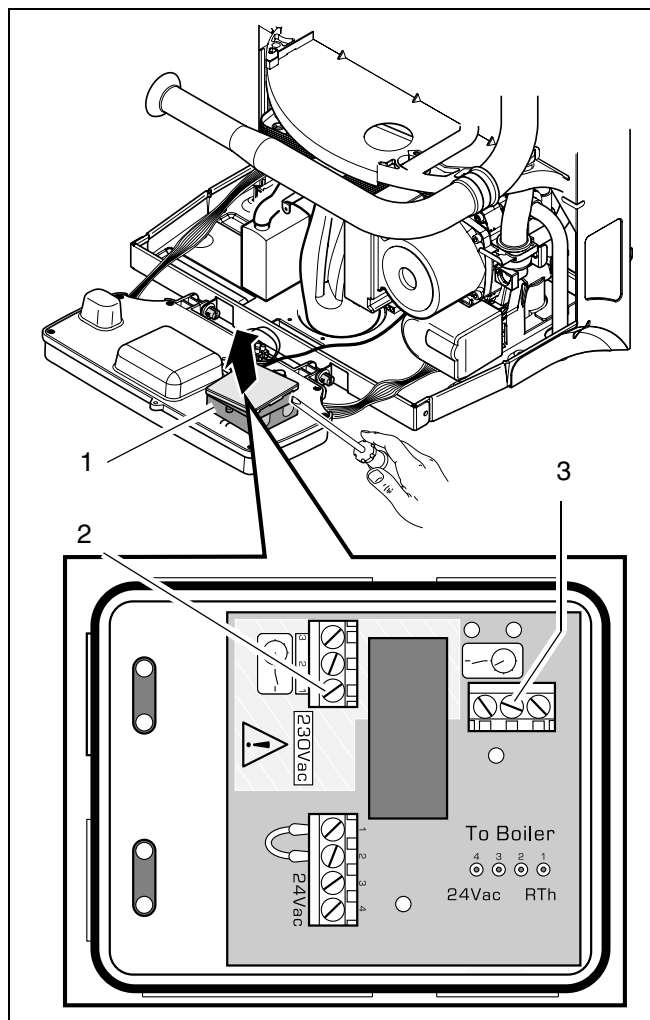

fig. 33 Connection box - 230 Volt and Volt free connection
- Remove the cover of the rth-converter (fig. 33, item 1).
- Connect the switch live to terminal "1" and a neutral to terminal "2" (fig. 33, item 2).
Terminal 3 (fig. 33, item 2) is not used.
- Fix the wire to terminal 1 and 2 of the volt free connection (fig. 33, item 3).